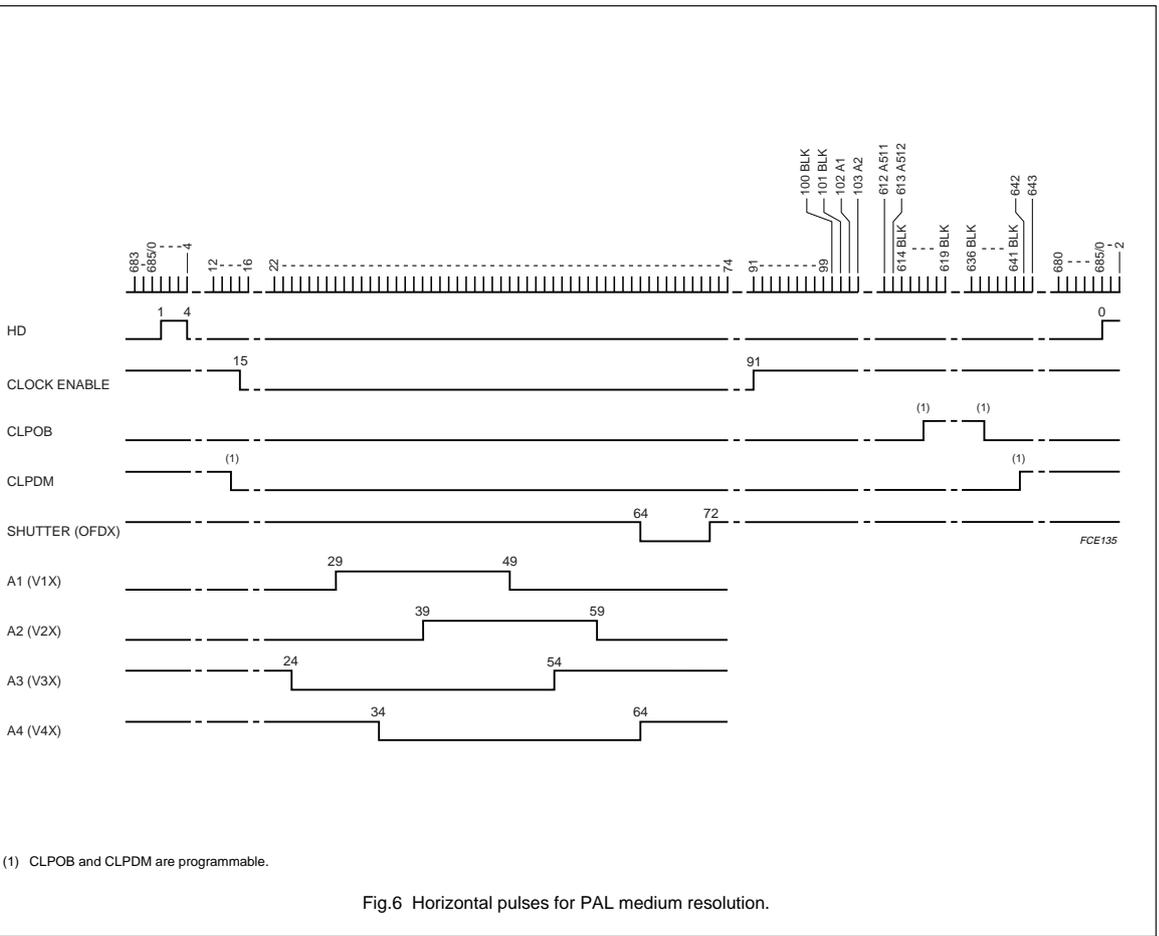

Fig.6 Horizontal pulses for PAL medium resolution.
- Horizontal pulses, see Fig.6